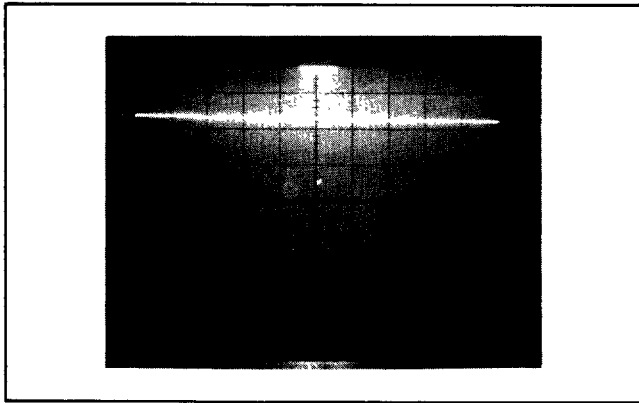

Figure 5-31. Narrow-Band Sweep, Levelled Power
1. On 560, press Channel A .5 dB PER DIVISION. The trace should appear on the top half of the display (Figure 5-31).
- o. If the trace goes unleveled, adjust A10R62 until it becomes leveled (Figure 5-31).